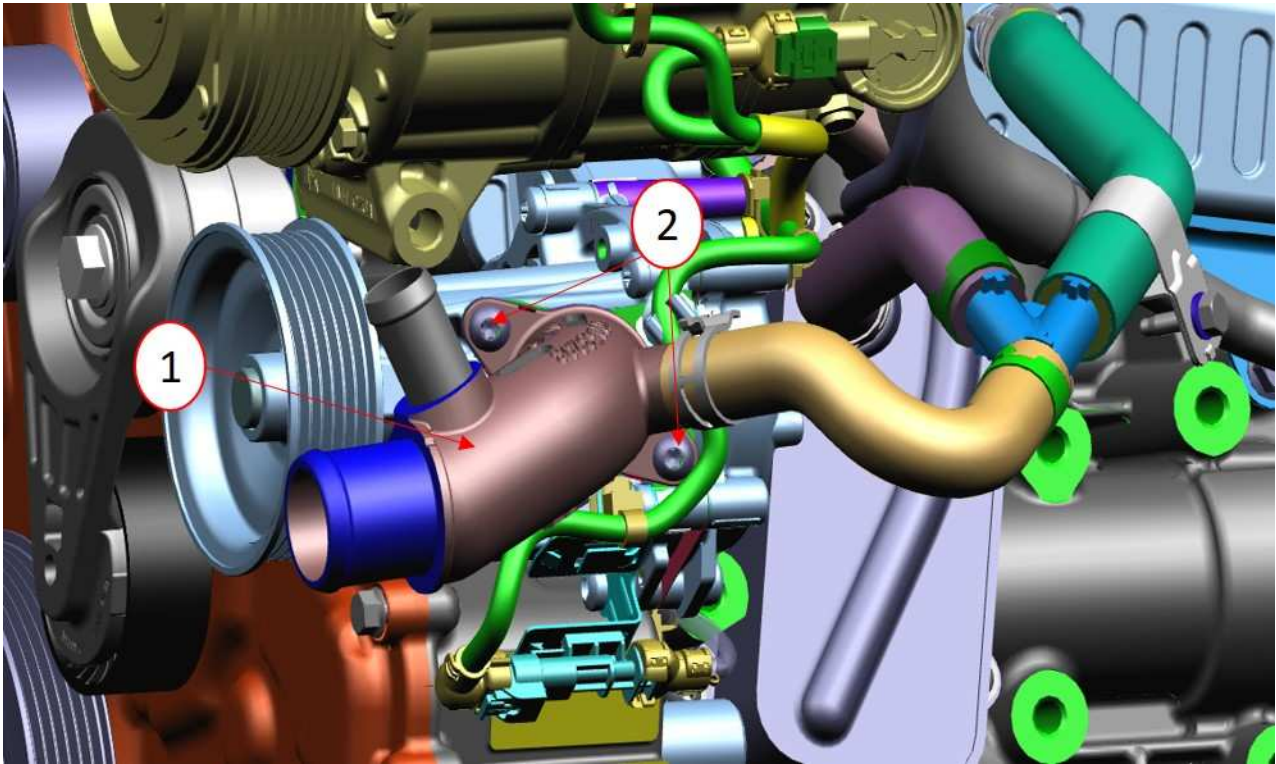

Fig. 1
2. Was coolant found to be leaking from the water pump inlet tube at the engine (Fig. 1) ?
1. Torque the water pump inlet tube fasteners to exactly 11 N·m (97 in. lbs) (Fig. 1) .
3. Is coolant still leaking from the water pump inlet tube at the engine(Fig. 1) ?